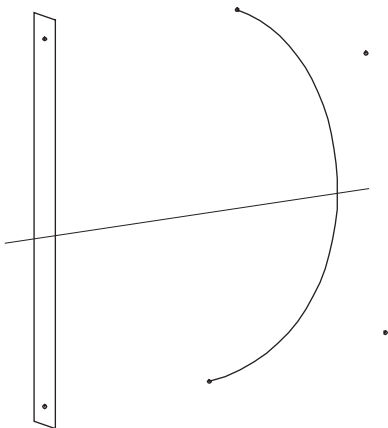

Fig. 9
- 5 Now put **'pt4'** and **'xpl0'** into the Selection Set and **press <F4>** to make another Projected Point. **OK** to accept the defaults. (Fig. 9).